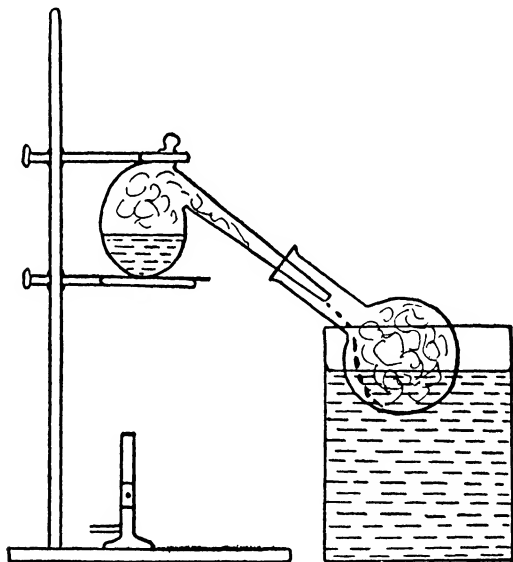

FIG. 99.—Preparation of nitric acid.
2. *Preparation of Nitric Acid*.—Arrange a ring stand, tubulated retort and condensing flask as shown in Fig. 99. Place in the retort about 15 grams of sodium nitrate and